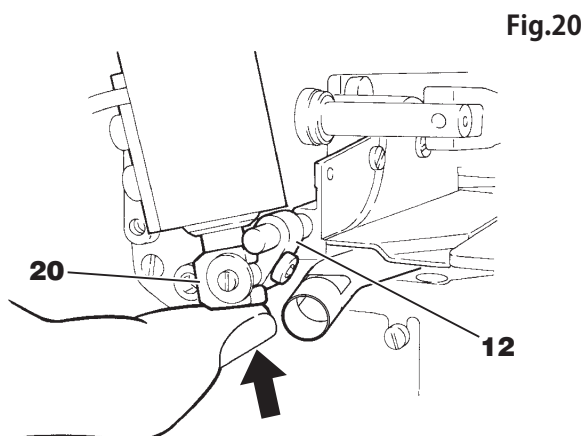

Fig.20
11. Raise solenoid **20** using a finger, turn link **12** and then move upper knife **16** (see Fig. 20). Check to see if upper knife **16** and lower knife **18** overlap smoothly. In order to check for proper cutting, place a woolly thread or a similar type of thread between the knives. The thread should be cut anywhere on the knives. If adjustments are required, loosen screws **19** and adjust the position of lower knife **18**. After any adjustment is made, tighten screws **19**.